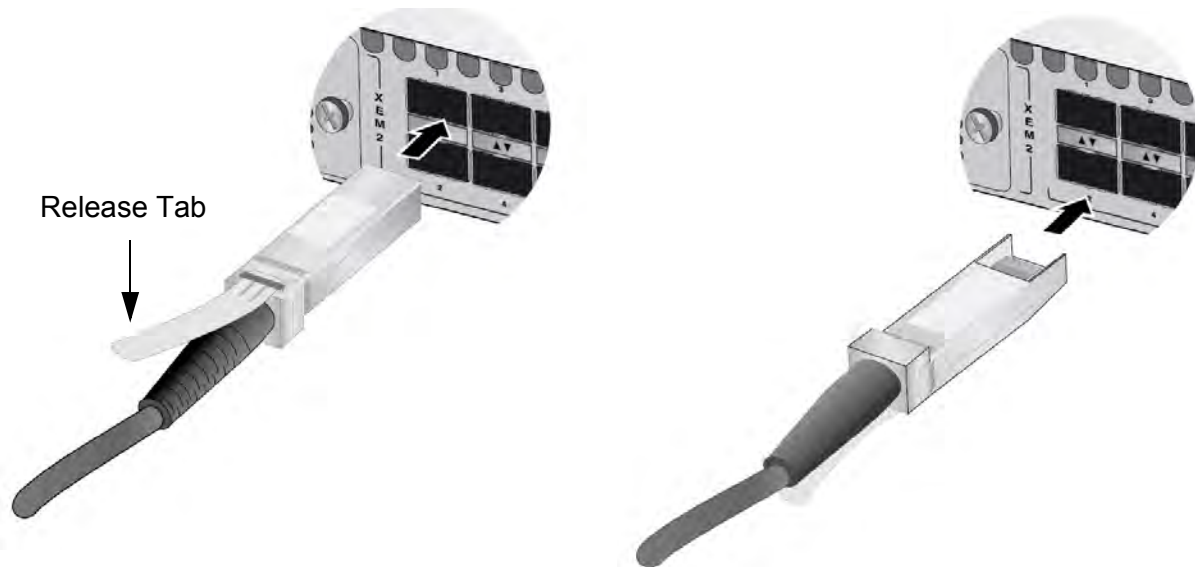

Figure 121. Installing SP10TW Direct Attach Cables
- Figure 121 shows the orientations for SP10TW direct attach cables installed in base ports 1 to 24 and XEM2-8XSTm and XEM2-12XS Cards.